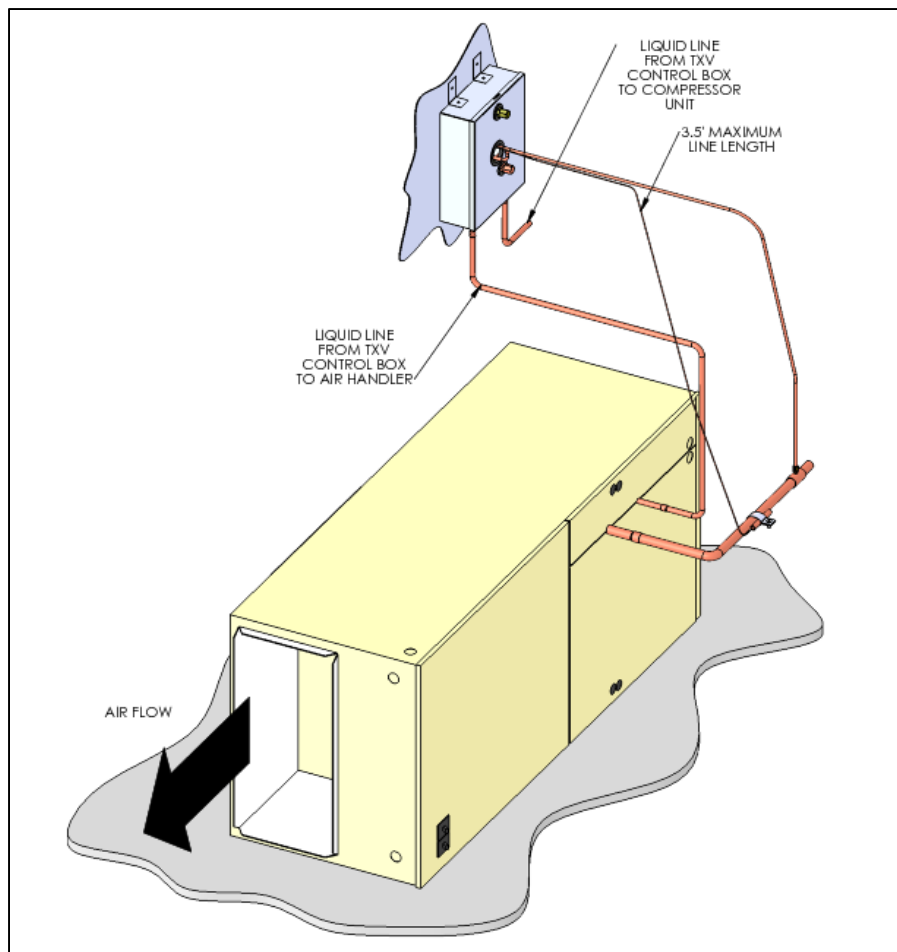

Figure 8c. TXV Control Installed next to Horizontal Left Flow Air Handler
For horizontal air handler applications (left or right air flow), the TXV control box is field positioned external to the air handler and can be fastened to (1) the cabinet side surface that is pointed upward, or (2) on a solid mounting surface immediately adjacent to the air handler as shown typically in Figures 8c and 8d.